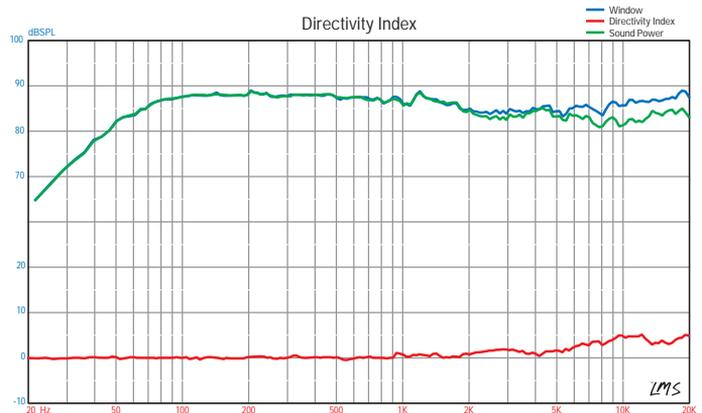

**Figure 7.** Measurements are made at 10° intervals along the horizontal and vertical axes.
The Directivity Index (DI) is the ratio of the intensity of the sound in the listening window to the average of the intensity of the sound radiated at all angles (sound power). We make measurements of the speakers in two semicircular patterns along the horizontal and vertical axes of the speaker (Figure 7). With those measurements, we determine the size of the optimal listening window and calculate the sound power of the speaker. We then compare the sound power to the response in the listening window and plot the directivity index for the speaker system's frequency response.